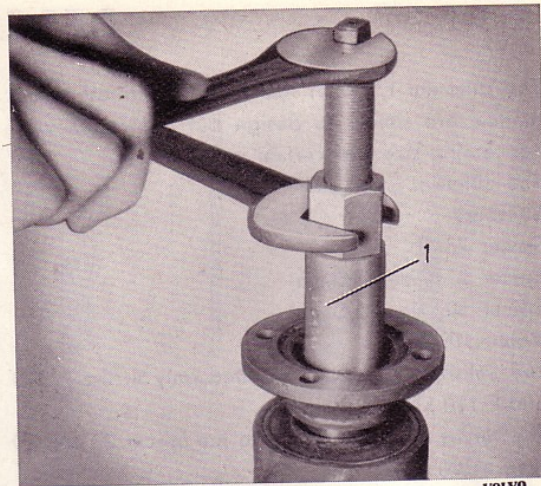

Fig. 8. Fitting flange
4. Press on the flange with the help of press tool SVO 1845, see Fig. 8. Fit the washer and nut. Tighten the nut to a torque of 28—30 kgm (200—220 lb.ft.).